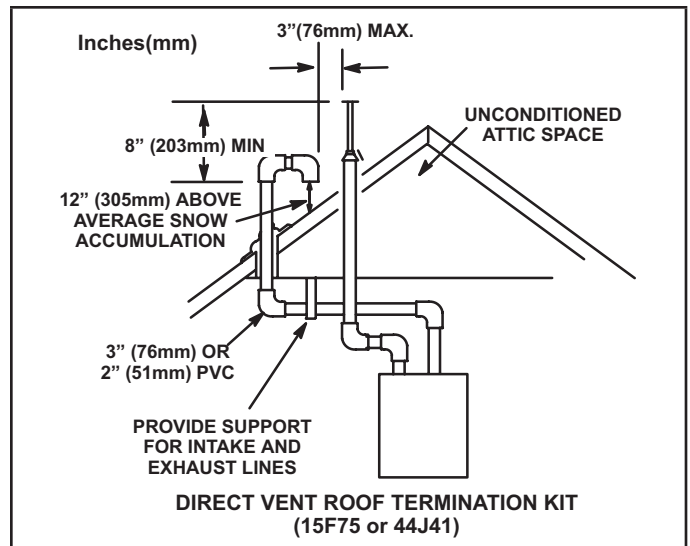
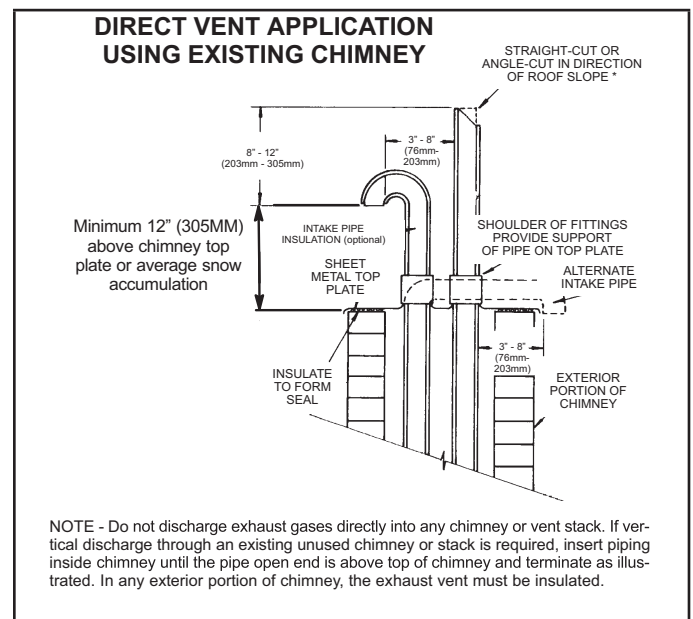

Figure 31
Figure 38
Intake and exhaust pipes may be routed either horizontally through an outside wall or vertically through the roof. In attic or closet installations, vertical termination through the roof is preferred. Figure 31 through Figure 38 show typical terminations.
- 3 - On roof terminations, the intake piping should terminate straight down using two 90° elbows (See Figure 31).